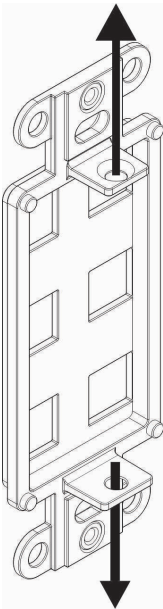

Figure 7: Removing the Mounting Plate Screws
3. To access the buttons, remove the two mounting plate screws (see Figure 7) and remove the mounting plate. Put the plate and screws aside.